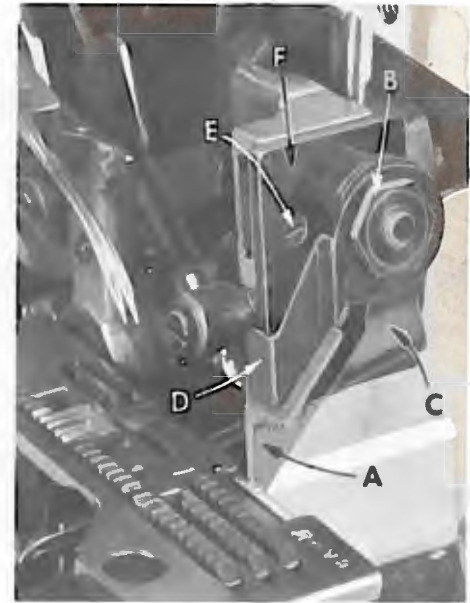

Fig. 13
Replace the upper knife assembly. Clamp upper knife (A, Fig. 13) in position, setting nut (B) to hold clamp (C) in its most clockwise position against upper knife. At the bottom of its stroke, front cutting edge of upper knife should extend not less than $\frac{1}{64}$ inch below cutting edge of lower knife. The chain guard (D) should be set down against the upper knife and back from the cutting edge.